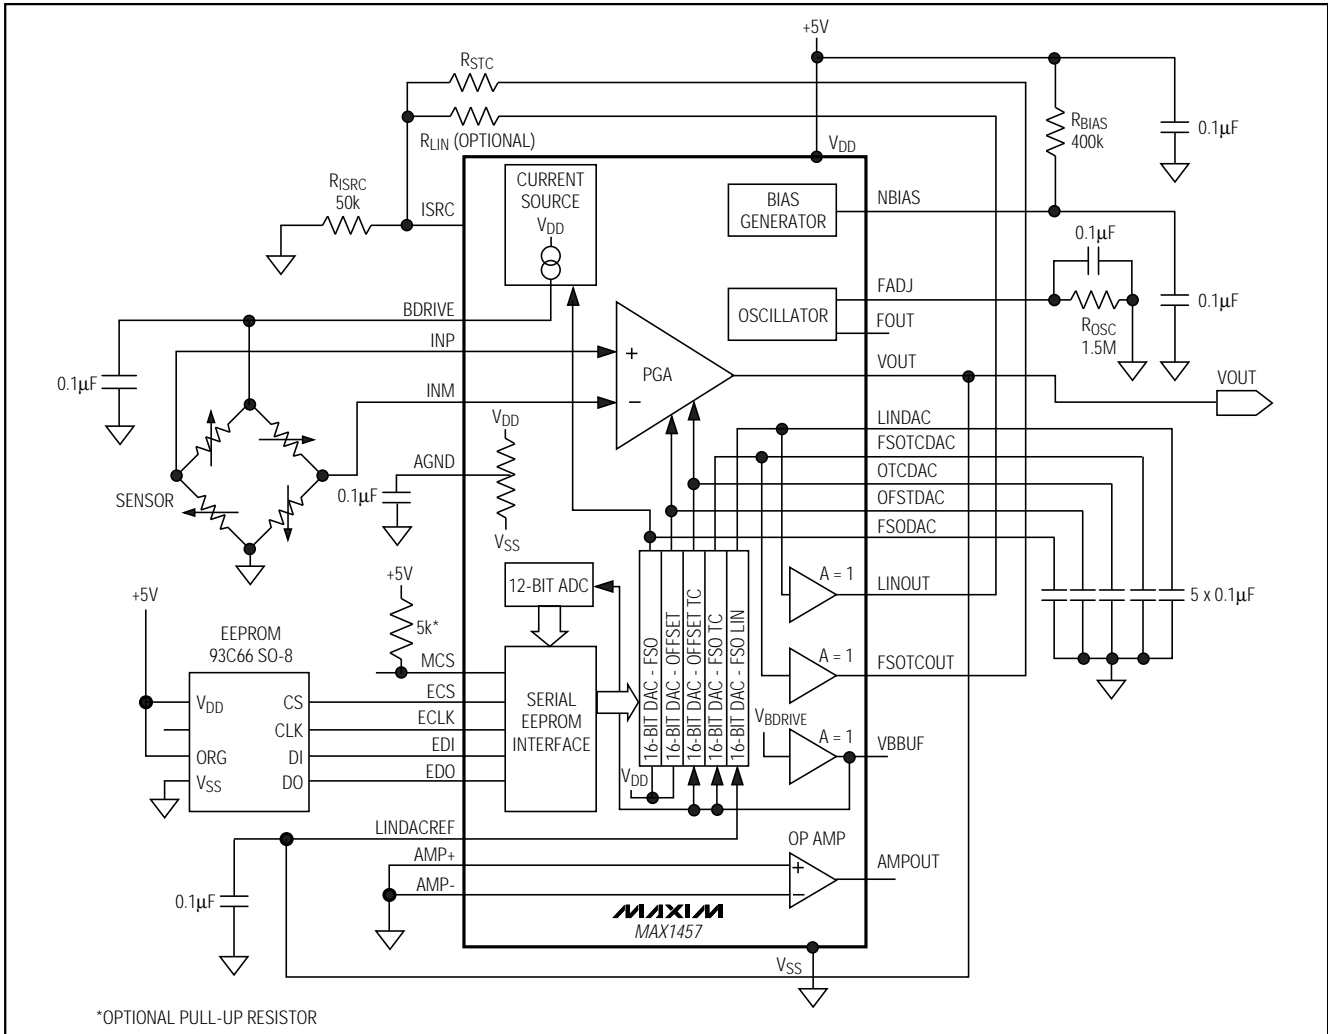

Figure 5. Basic Ratiometric Output Configuration
**Note 1:** Circuit of Figure 5 with current source turned off. This value is adjustable through a bias resistor and represents the IC current consumption. This excludes the 93C66 EEPROM average current, which is approximately  $13\mu A$  at a refresh rate of 3Hz ( $f_{CLK} = 100kHz$ ).
The MAX1457 has been designed to provide a high-performance ratiometric output with a minimum number of external components (Figure 5). These external components typically include an external EEPROM (93C66), decoupling capacitors, and resistors.